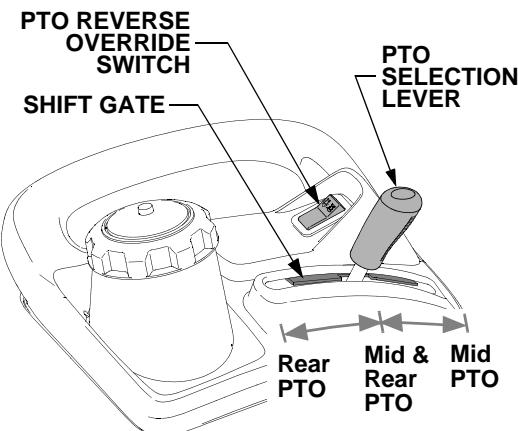

Figure 19
- Shift the PTO selection lever rearward to select the rear PTO. The rear PTO is used to drive equipment designed to operate at an input speed of 540 RPM. See Figure 19.
- Shift the PTO lever forward to select the mid PTO. The mid PTO is used to drive equipment designed to operate at an input speed of 2000 RPM. Refer to Figure 19.
- Shift the PTO lever to the middle position to select both the mid PTO and rear PTO. The mid PTO and rear PTO will run simultaneously when the PTO switch is activated. Refer to Figure 19.
The PTO reverse override switch, located on the left fender, allows the PTO to operate while the tractor is traveling in the reverse direction. Refer to Figure 19.